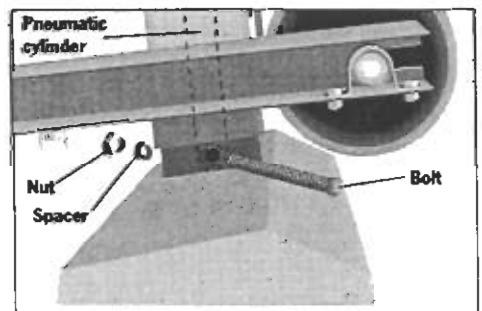

Figure 14
12. Use a 1/2-inch socket wrench to remove the nut and bolt that hold the bottom of the pneumatic cylinder to the bottom of the upright tower (Figure 14). Once you remove the nut, push the bolt back through the hole as far as it will go. You may need to unscrew the bolt from the other side.